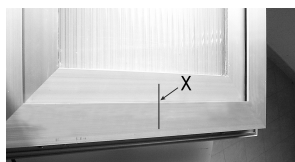

Figure 2
A. Trace centrepoint X in pencil onto the window frame (Fig.2) or fairly divide it in case of use of more Syncro³.